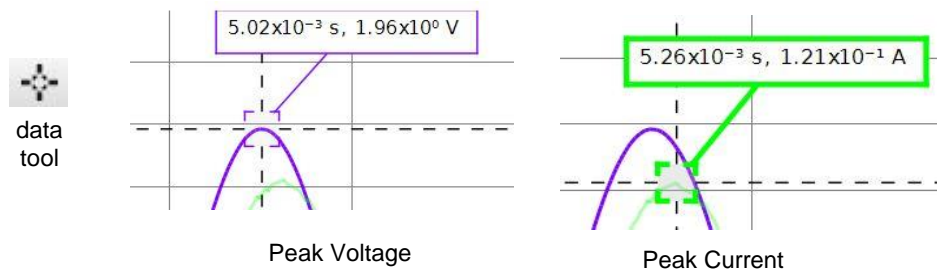

Figure 7
- Measure the peak current and record this as *experimental* peak current, I_{max} , in Table B on your data sheet. (See Figure 7.)